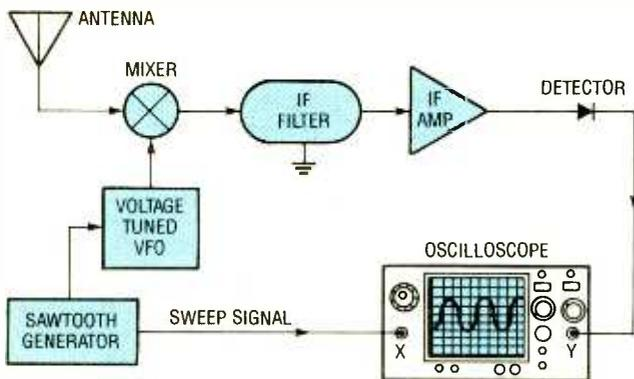

Fig. 1. Block diagram of a spectrum analyzer.
Figure 1 shows the block diagram of a typical spectrum analyzer. The input is coupled to an RF mixer, where it is mixed with the RF output of a local oscillator (LO) that consists of a voltage-tuned, variable-frequency oscillator (VTVFO), whose instantaneous frequency is controlled by the output of a sawtooth generator; that signal also controls the X-axis deflection on the oscilloscope.